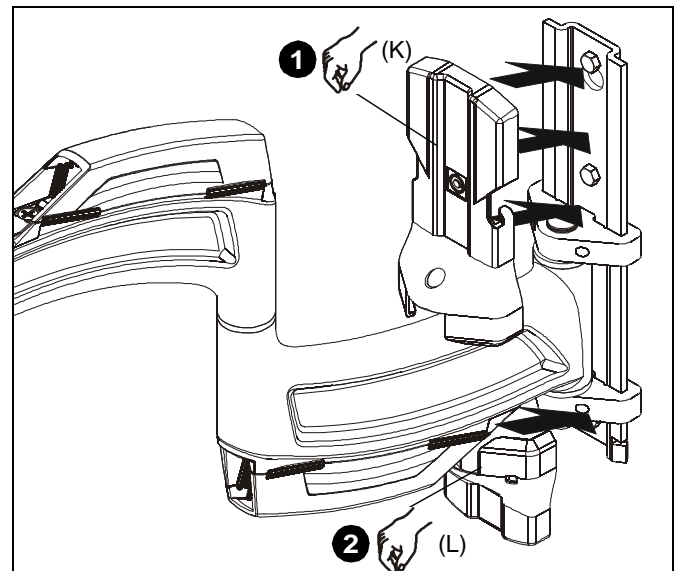

Figure 13
1. Install top cover (K) onto upper section of wall plate. (See Figure 13)
2. Install bottom cover (L) onto lower section of wall plate. (See Figure 13)